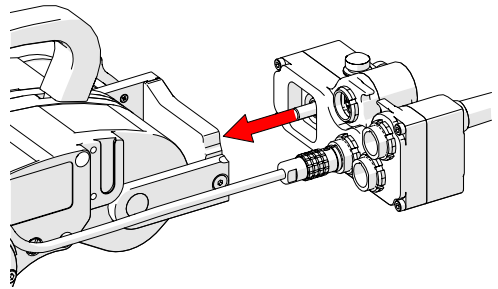

Fig. 102 - Align with drive module mount
5. Align the umbilical to the umbilical mount of the drive module (*Fig. 102*).